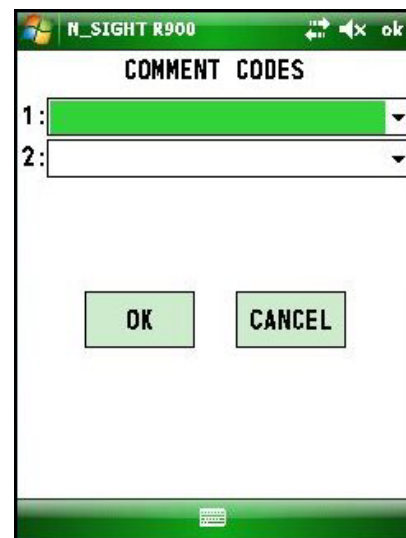

Figure 6.20 Screen Where Code Was Entered
- 2 Go to the screen where you entered the code or note. See Figure 6.20.